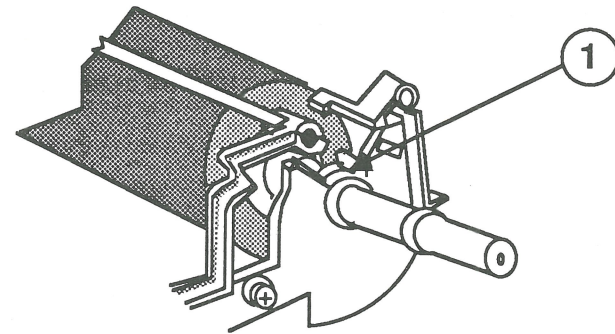

FIGURE 19
7. Using the flatblade screwdriver, move the platen catches (Figure 19, #1) inward, toward the platen.